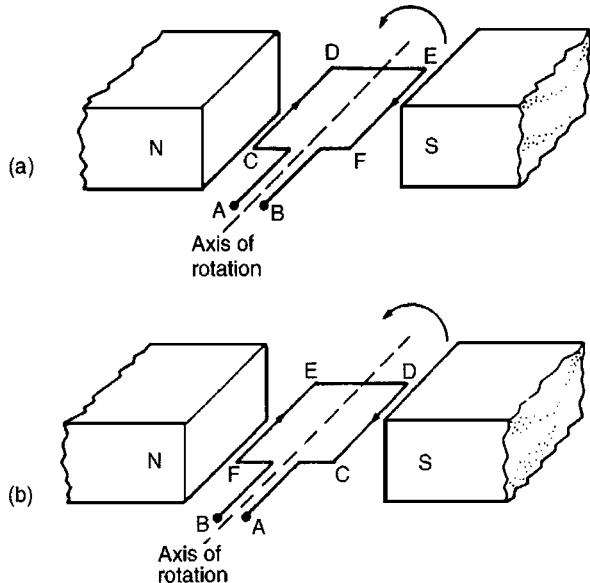
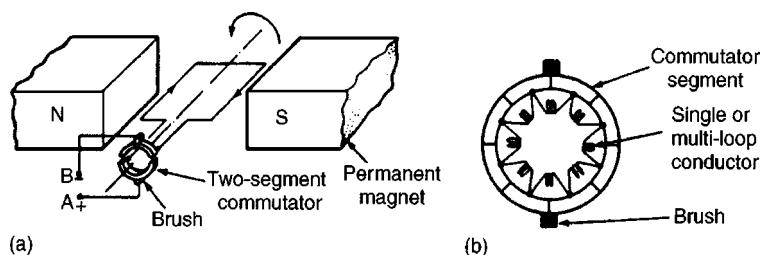

Figure 22.1
Figure 22.2
In an electric motor, conductors rotate in a uniform magnetic field. A single-loop conductor mounted between permanent magnets is shown in Fig. 22.1. A voltage is applied at points A and B in Fig. 22.1(a)
to the current flowing from E to F (from Fleming's left hand rule). If the loop is free to rotate, then when it has rotated through 180° , the conductors are as shown in Fig. 22.1(b) For rotation to continue in the same direction, it is necessary for the current flow to be as shown in Fig. 22.1(b), i.e. from D to C and from F to E. This apparent reversal in the direction of current flow is achieved by a process called **commutation**. With reference to Fig. 22.2(a), when a direct voltage is applied at A and B, then as the single-loop conductor rotates, current flow will always be away from the commutator for the part of the conductor adjacent to the N-pole and towards the commutator for the part of the conductor adjacent to the S-pole. Thus the forces act to give continuous rotation in an anti-clockwise direction. The arrangement shown in Fig. 22.2(a) is called a 'two-segment' commutator and the voltage is applied to the rotating segments by stationary **brushes**, (usually carbon blocks), which slide on the commutator material, (usually copper), when rotation takes place.
In practice, there are many conductors on the rotating part of a d.c. machine and these are attached to many commutator segments. A schematic diagram of a multi-segment commutator is shown in Fig. 22.2(b).
- (iii) **field windings**, i.e. many turns of a conductor wound round the pole core; current passing through this conductor creates an electromagnet, (rather than the permanent magnets shown in Figs. 22.1 and 22.2),